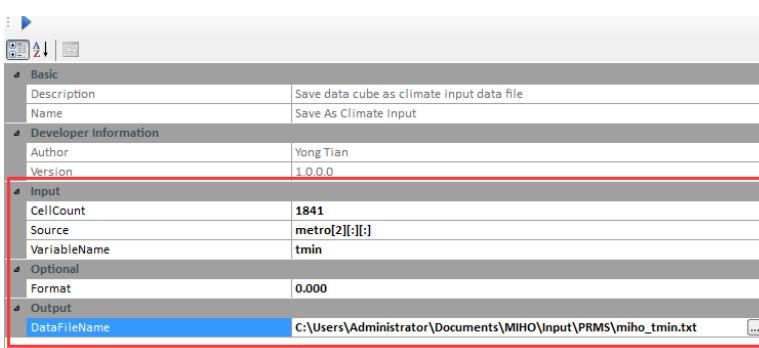

Figure 6-8 Settings used to generate Minimum Temperature input file.
- 10) Change input and output of the Save As Climate Input tool according to Figure 6-8 to save Minimum Temperature input file.